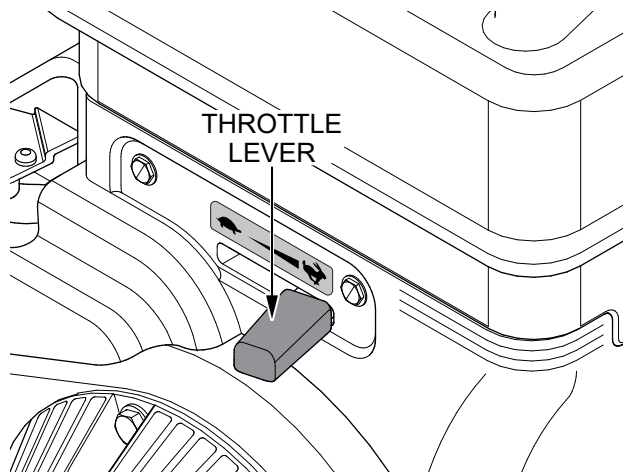

Figure 13. Throttle Lever (Run)
8. To begin pumping, place the **engine throttle lever** (Figure 13) in the **RUN** position.